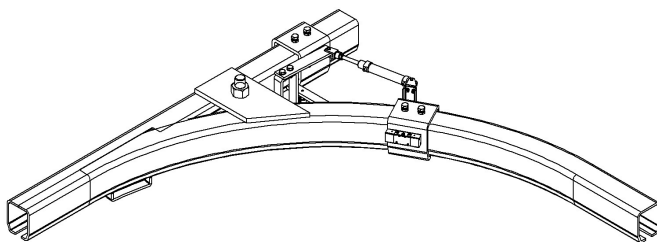

Fig. 26
*27.000 Series automatic switches are only provided with unidirectional roller levers instead of springs, defining the direction of movement through the switch (see fig. 26 & 27).
In 27.000 series automatic switches the manipulation of the tongue is achieved through the use of unidirectional roller levers instead of springs, as shown below in fig. 26 & 27.